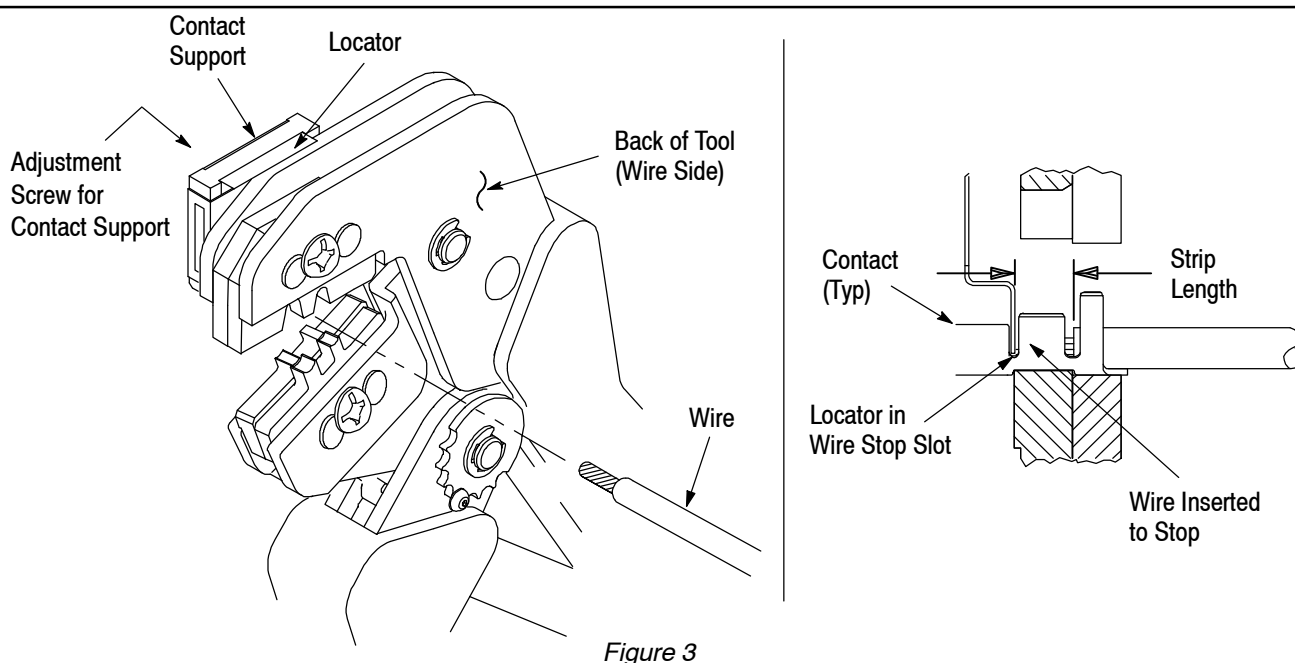

Figure 3
4. CONTACT SUPPORT ADJUSTMENT (Figure 3)
Refer to the table in Figure 1 and select wire of the specified size and insulation diameter. Strip the wire to the length indicated in Figure 1, taking care not to nick or cut wire strands. Select an applicable contact and identify the appropriate crimp section according to the wire size markings on the tool. Refer to Figure 3 and proceed as follows:
3. Position the contact so that the mating end of the contact is on the locator side of the tool, and so that the open “U” of the wire and insulation barrels face the top of the tool. Place the contact up into the nest so that the movable locator drops into the slot in the contact. Refer to Figure 3. Butt the front end of the wire barrel against the movable locator.
5. Insert stripped wire into contact insulation and wire barrels until it is butted against the wire stop, as shown in Figure 3.
The crimped contact may stick in the crimping area, but the contact can be easily removed by pushing downward on the top of the locator (see Figure 3).